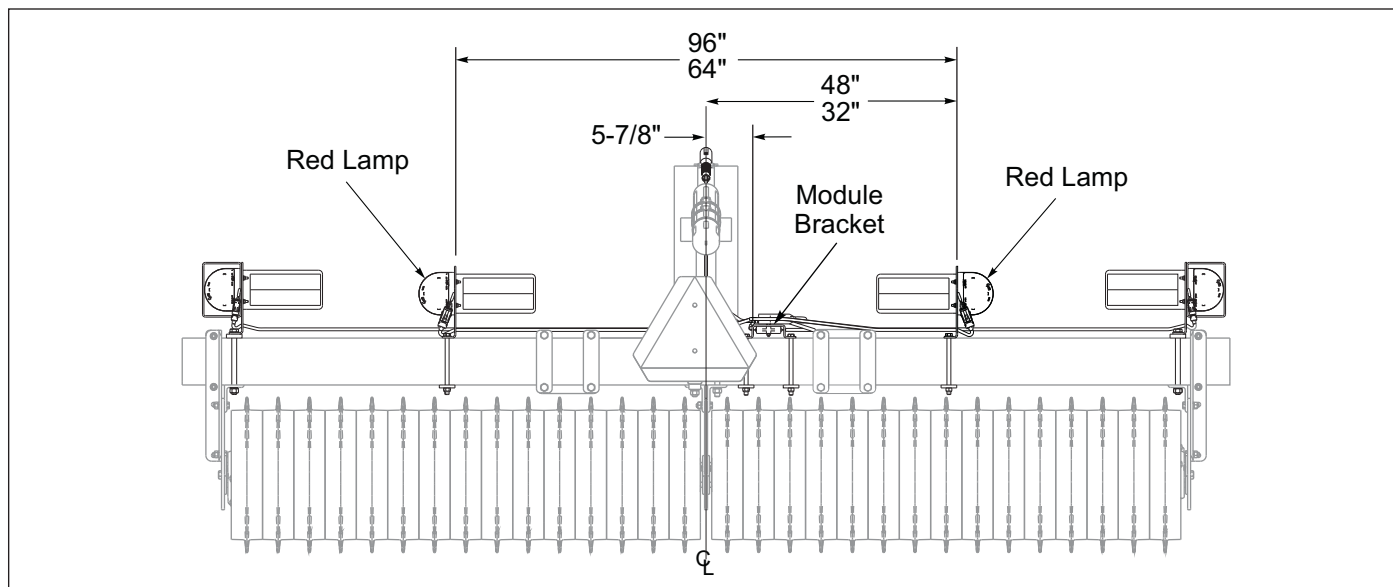
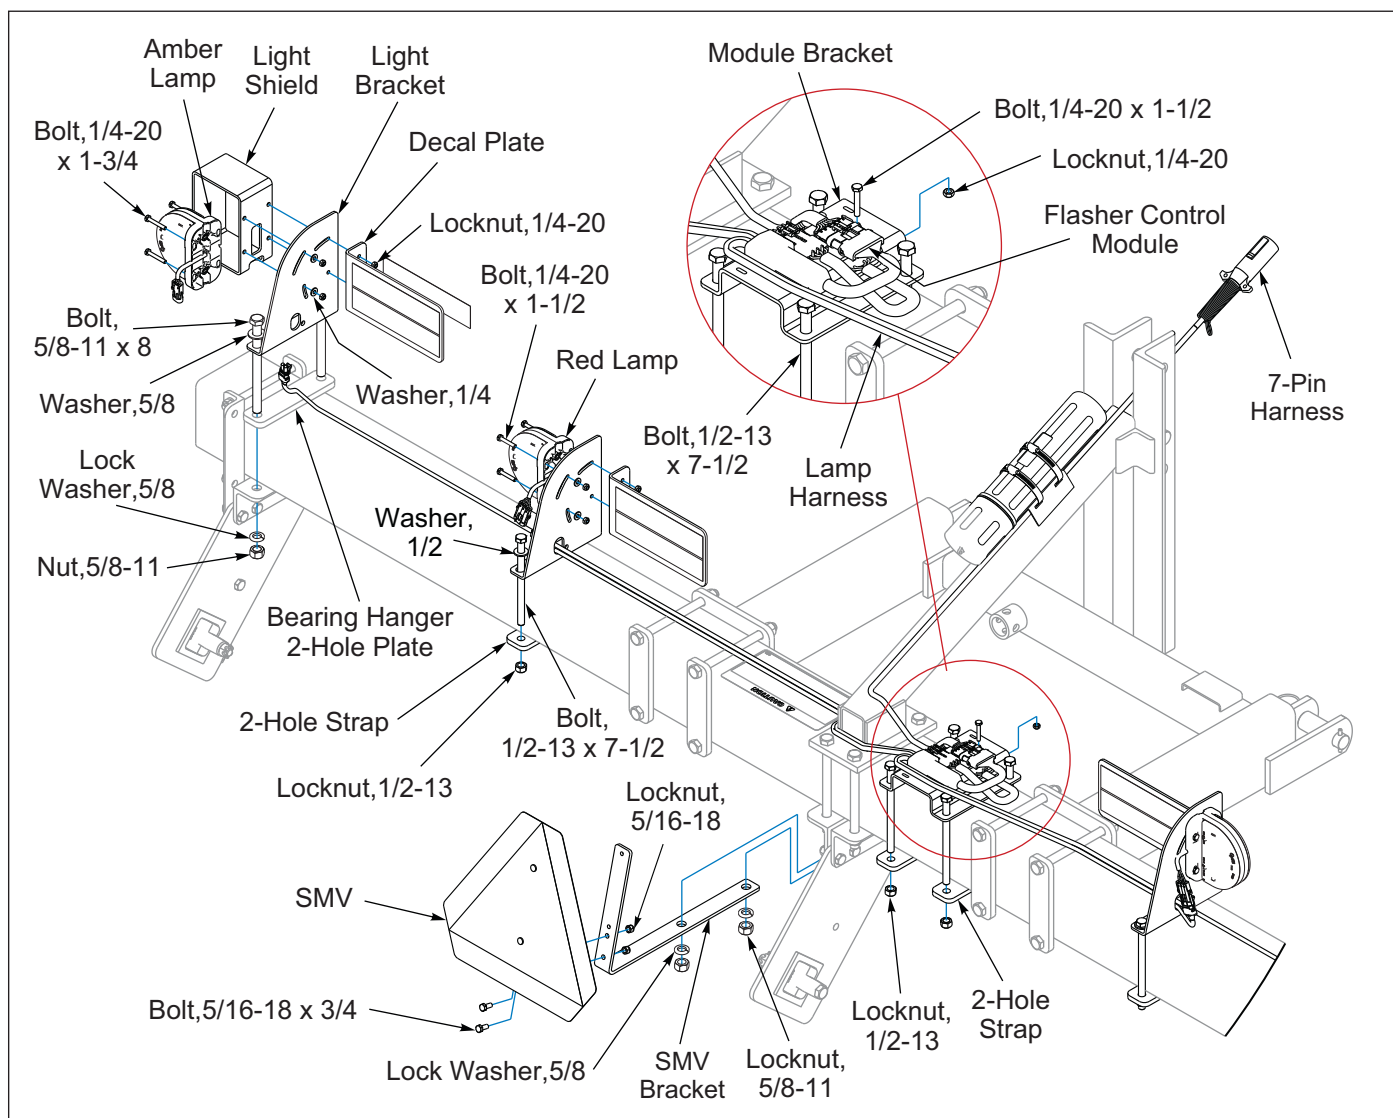

Figure 2-4: Warning Lamp - Placement Detail
Figure 2-5: Warning Lamp Installation
1. Attach the inner Light Brackets to the frame tube, approximately 32" to 48" from the center of the frame dependent on the machine length. **See Figure 2-4.** Place a 2-Hole Strap under the frame. Secure with 1/2-13 x 7-1/2 Bolts, Flat Washers, and Locknuts. **See Figure 2-5.**